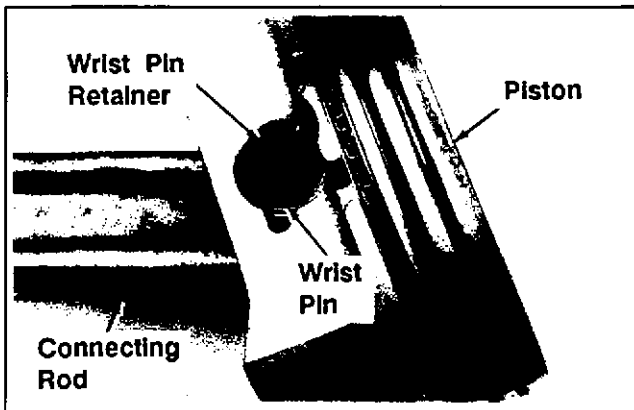

Figure 9-31. Removing Piston From Connecting Rod.
- Remove the wrist pin retainer and the wrist pin. Separate the piston from the connecting rod. See Figure 9-31.